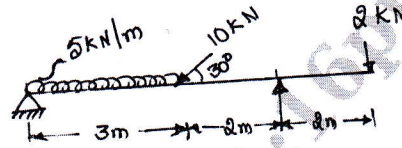

Fig. Q4
- 4 An overhanging beam is subjected to forces as shown below in Fig. Q4. Draw SFD and BMD and indicate all the salient points. (20 Marks)